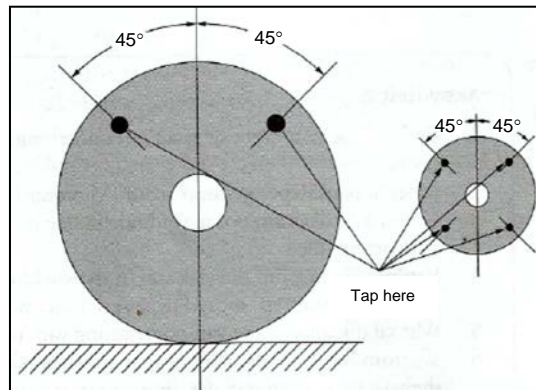

FIGURE 4.12
4.12 Figure 4.12 shows marks on a grinding wheel that must be struck with a non-metal object. As what is the test known?